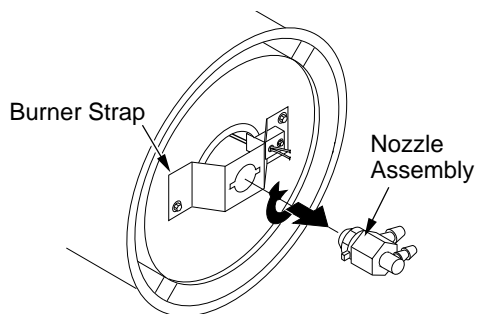

Figure 22 - Removing Nozzle Assembly, All Models
4. Turn nozzle assembly 1/4 turn to left and pull toward motor to remove (see Figure 22).
10. Attach nozzle assembly to burner strap (see Figure 22).